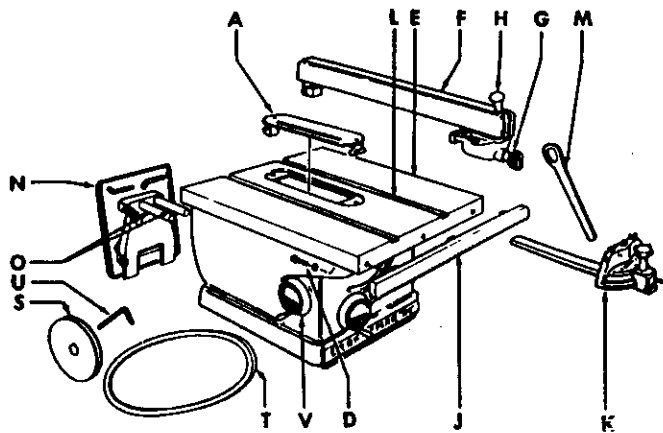
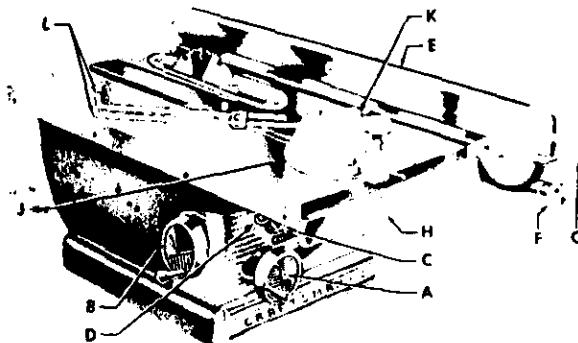

Figure 2
Figure 3
Your saw is shipped with the following loose parts wrapped separately and packed in same carton with the saw (see figure 2): Rip fence rack (J), three screws and lock washers (D), rip fence (F), miter gage (K), motor mount (N), motor pulley (S), V-belt (T), arbor nut wrench (M), Allen wrench (U), handwheel assembly (V), and motor mounting hardware. Thoroughly clean the saw and these loose parts with a dry cloth. Remove the rust-preventative coating on the saw table by wiping it off with a cloth soaked in kerosene.
**CHECK ARBOR NUT** — Check tightness of saw arbor nut (Key No. 10, fig. 1), using wrench (M, fig. 2).
**ALIGN SAW BLADE WITH TABLE GROOVES** — Using elevation hand wheel (A, fig. 3), set saw blade for deepest cut. Make pencil mark on tooth that is just above table top at front of
blade. Measure distance from this tooth point to right-hand table groove (L, fig. 2). Rotate blade by hand to place this same tooth just above table top at rear — then again measure distance from tooth point to right-hand groove. The two measurements must be exactly equal. If not, loosen the three screws (Key No. 84, fig. 1) in each trunnion which secure the table trunnion (Key No. 83, fig. 1) to the table. Shift the two trunnions until the two measurements are equal, then retighten the screws. Again check measurements.
**INSTALL RIP FENCE** — Secure the rack (J, fig. 2) to the front skirt of the saw table, using the three screws and lock washers (D, fig. 2). Be sure to position rack with gear teeth facing downward — and with top edge of rack parallel with the top of table. Pull the rip fence knob (G, fig. 2) out to permit the guide of the rip fence (F, fig. 2) to slide over rack (J, fig. 2) — then place the rip fence on the saw table as shown in figure 3. A slight pressure must be exerted on the rip fence to cause it to seat properly on the rack. This is necessary because there are two bar alignment springs which act on the inner lip of the rack to hold the fence in continuous alignment. Slide fence along rack, noting clearance between fence and table top. If any part of the fence (other than the sliding pad at the rear) drags on the table top, or if the clearance between fence and table varies appreciably as fence is moved, rack (J, fig. 2) must then be readjusted. This can be done by again loosening screws (D, fig. 2) to reposition the rack.
**ADJUSTING RIP FENCE PARALLEL TO SAW BLADE** — Place the rip fence next to the right-hand table groove (L, fig. 2) and clamp it in place by pushing down on the cam clamp lever (H, fig. 2). Fence should be perfectly parallel to the groove. If not, loosen the four screws (Key Nos. 70 and 71, fig. 1) which secure the guide to the fence. Align fence with groove — then retighten screws.
**ADJUSTING STOP COLLARS** — Using the elevation hand wheel (A, fig. 3), set saw blade for deepest cut. Rotate the tilt hand wheel (B, fig. 3) clockwise until further movement is prevented.
See operation of clamp screw handle (D, fig. 3) under Operating Controls. Use a square and check for 90 degrees between the side of the elevated blade and the table top. If the blade is not square with the table top, operate the tilt hand wheel until the pointer indicates approximately 10 degrees on the tilt gage. Loosen the set screws (Key No. 31, fig. 1) on the stop collar (Key No. 32, fig. 1) nearest to the tilt hand wheel. Rotate the stop collar on the tilt screw (Key No. 35, fig. 1) to the left or right (whichever is required) an amount necessary to stop the blade square or at 90 degrees to the table top. Tighten the two set screws and rotate the tilt hand wheel clockwise until further movement is prevented. Recheck the blade for squareness. Several slight adjustments may have to be made to the stop collar before the blade is square with the table top.
**MOUNTING THE MOTOR** — Mount the motor (see Motor Specifications) to the motor mount assembly (N, fig. 2) — then mount the motor support assembly to the saw by sliding the two pins (O, fig. 2) into the mounting holes at the rear of the cradle. Place pulley (S, fig. 2) on the motor shaft, line it up with the pulley on the saw arbor, then tighten the pulley set screws. Install V-belt (T, fig. 2) over pulleys and adjust the belt tension by moving the motor support assembly towards or away from the cradle. Motor should be allowed to rest or hang against the belt to obtain the automatic belt tightening feature — and belt should be snug. If adjustment is correct, clamp the motor support in place by tightening the two hex. head machine screws (Key No. 115, fig. 1) which are packed in the envelope in the loose parts carton.
**PLACEMENT OF MITER GAGE** — The miter gage assembly (K, fig. 2) can be used in either one of the two table grooves.
The following controls should be tested until the operator is thoroughly familiar with their uses. See figure 3.
**ADJUSTING TILT GAGE** — Using an accurate square, set saw blade at right angles to table top. Then adjust the pointer on the tilt gage (C, fig. 3) to "0".
**ADJUSTING MITER GAGE SCALE** — Using an accurate square, block the miter gage at the square position. Make a trial cut on a fairly wide board, then check this cut with the square. If cut is accurate, set the pointer on the miter gage scale (J, fig. 3) to "90".
**ADJUSTING CAM CLAMP LEVER** — If clamping action of lever (H, fig. 2) is too tight or too loose, it can be adjusted by increasing or decreasing the effective length of the rip fence clamp rod (Key No. 78, fig. 1). This is done by readjusting the clamp rod nut (Key No. 63, fig. 1) on the end of the clamp rod in back of the fence. When properly adjusted, the clamping lever should lock in a horizontal position or slightly lower.